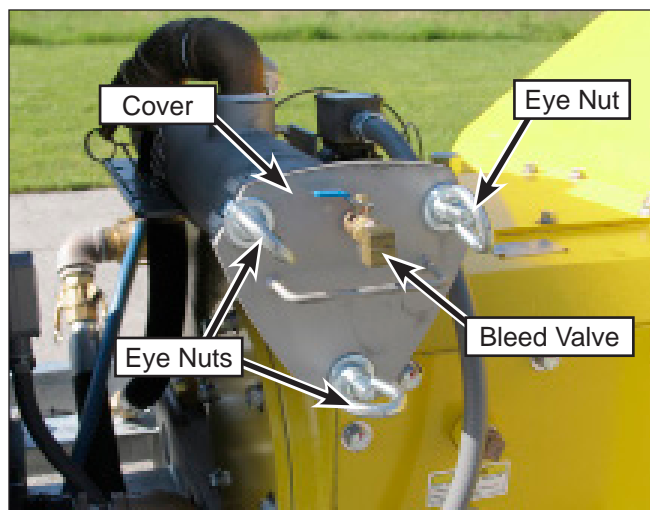

Figure 40: Filter Cover.
1. Relieve pressure from the housing using the bleed valve then loosen the three eye-nuts (Figure 40) on the filter cover.